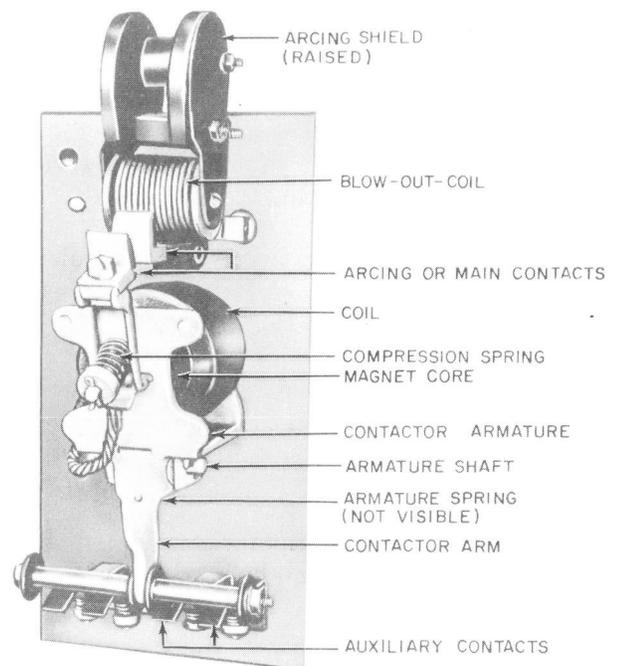

Fig. 1—Typical Contactor
1.06 On 20- and 50-ampere contactors, the arcing contacts are silver plated and also serve as the main contacts. On other sizes, the main contacts are laminated brushes contacting a silver-plated or silver-faced contact plate. All but 20-ampere contactors have magnetic blowouts and arcing shields. Typical contactors are shown in Fig. 1 and 2.